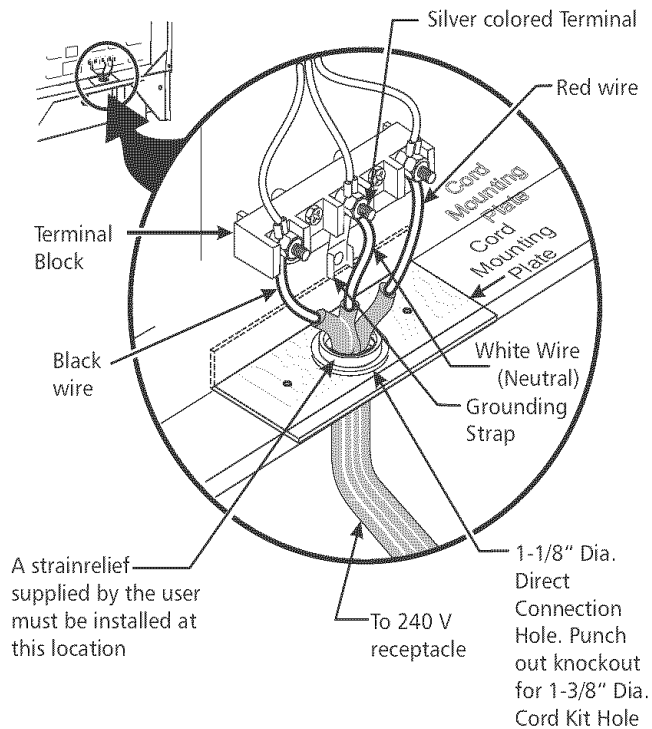

Figure 3
**NOTE:** Range is shipped from factory with 1 1/8" dia. hole as shown in figure 3. If a larger hole is required, punch out the knockout.
(The 3-conductor cord or cable must be replaced with a 4-conductor cord or cable where grounding through the neutral conductor is prohibited in new installations, mobile homes, recreational vehicles or in other areas where local codes do not permit neutral grounding) If local codes permit connection of the frame grounding conductor to the neutral wire of the copper power supply cord (see Figure 3):
4. Replace the 3 nuts on the terminal block (see figure 3).